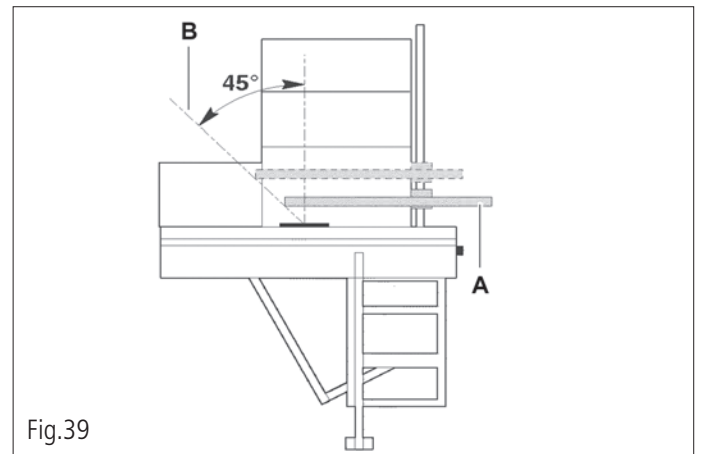

Fig.39
CAUTION: The end of fence (A, Fig.39) must be positioned lengthwise along an imaginary line (B) which starts half way down the blade and slips forward by 45°. This is to prevent the workpiece kicking back towards the operator. Never put hands near the scoring blade and always use a push stick. The machine is supplied with a push stick.